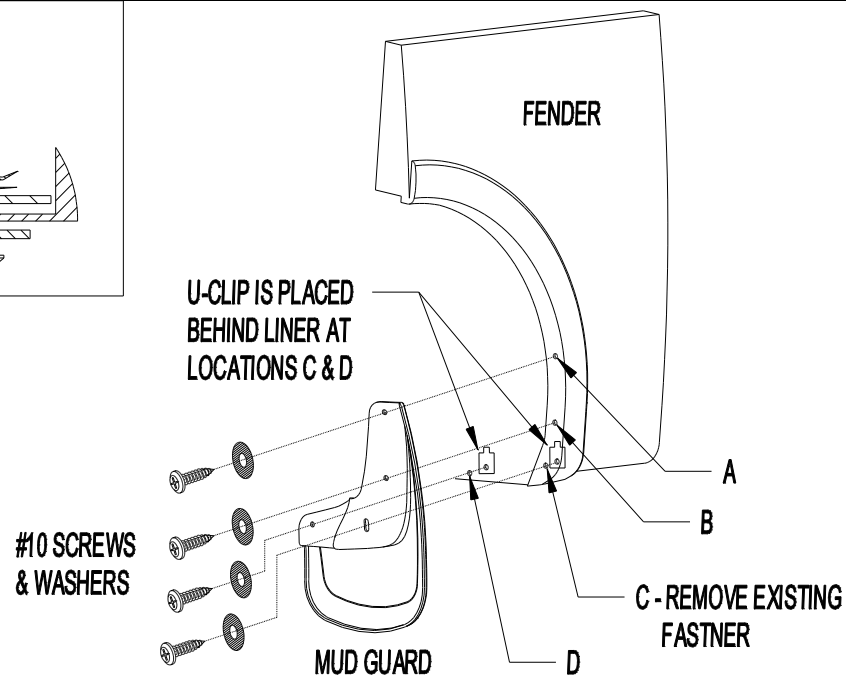

Figure 1
2. Remove existing fastener from location C (Figure 1).
3. Attach mud guard to front fender at location C by installing a #10 screw and washer thru mud guard, fender and into a U-clip. NOTE: the U-clip is placed on the backside of liner and acts as a nut. DO NOT clip over liner or fender. Check fit and parallel. Adjust accordingly before tightening (Figure 1 and 2).
5. Using mud guard as a template, mark, drill 1/8 hole and install #10 screw and washer at location D, thru mud guard, fender liner and into a u-clip on the backside of liner. The u-clip is used as a nut, DO NOT clip over liner or sheet metal (Figures 1 and 2).